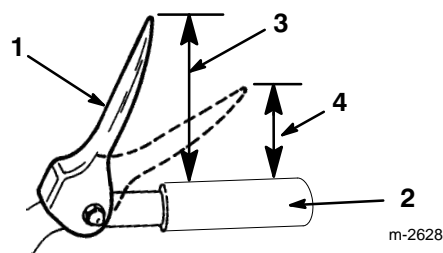

Figure 8
3. Adjust the flange lock nut up or down on the traction control rod until the distance between the top of the handgrip and the bottom of the traction control lever is approximately five inches (12.7 cm) (Fig. 8).
The adjustment is correct when the wheels stop rolling backwards and the distance between the top of the handgrip and the bottom of the traction control lever is three to four inches (7.6 to 10.2 cm) (Fig. 8).